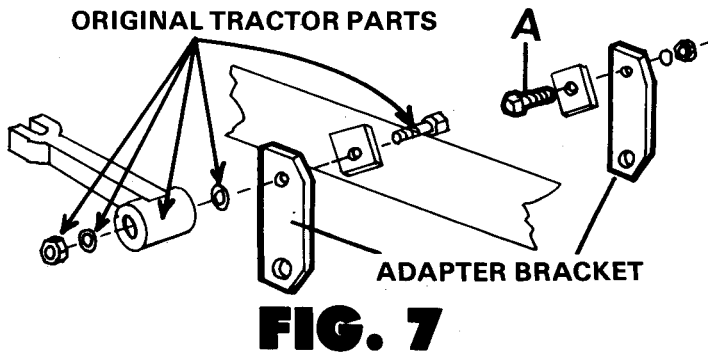

FIG. 7
1. Refer to FIG. 7.
Locate the bolt that fastens the forward and reverse lever linkage to the tractor behind the R.H. foot rest. (see Fig. 7) Remove the self-locking nut and bolt. Re-assemble with Adapter Bracket (2 furnished with loader) next to tractor frame as shown. Do not tighten Nut securely. Fasten the other Adapter Bracket to the empty hole on L.H. side of tractor with a 1/2 x 1 1/4" Bolt, Lockwasher and Nut (A). Do not tighten Bolts yet.